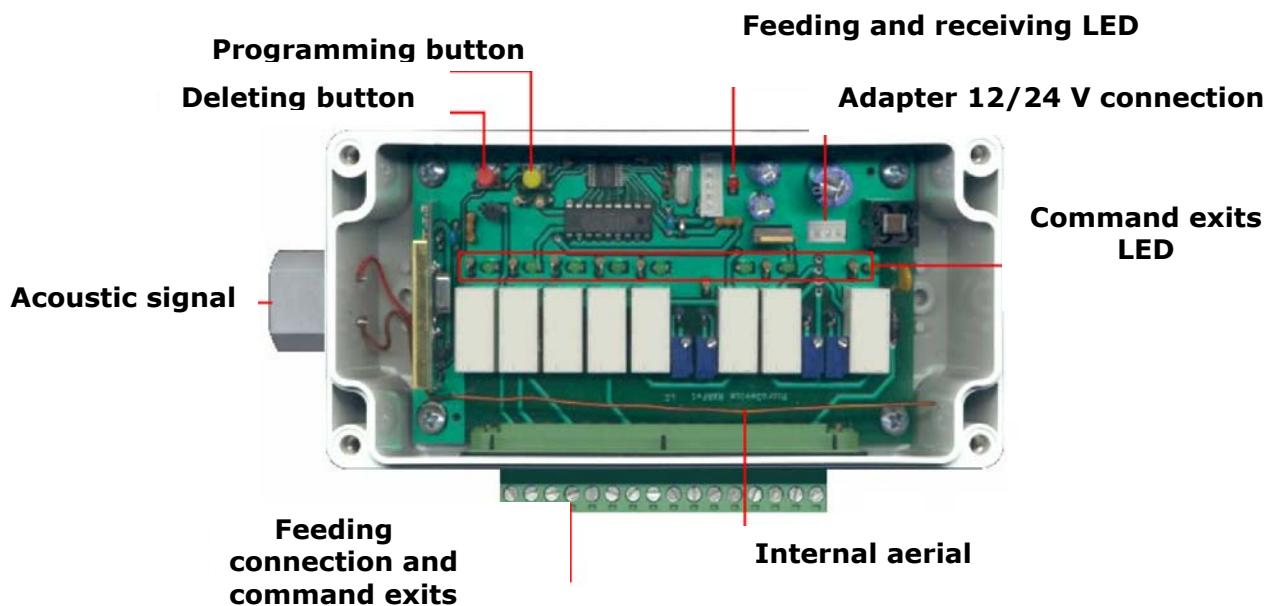

Figure 2: Description of the receiver
If the boat is equipped with 24V batteries, identify on the receiver the adaptation connector (see figure 2), take away from the connector the adapter for 12V batteries and replace it with that one for 24V batteries supplied in the kit.
1. Feed the receiver keeping pressed the yellow programming button (see figure 2).